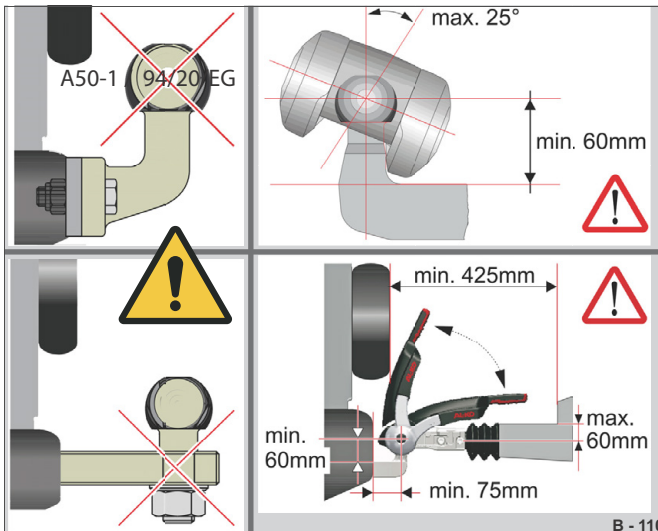

Fig. 15 Requirements / minimum dimensions
- To use a safety coupling, the requirements of the ball head coupling on your car must be adhered to (Fig. 15)